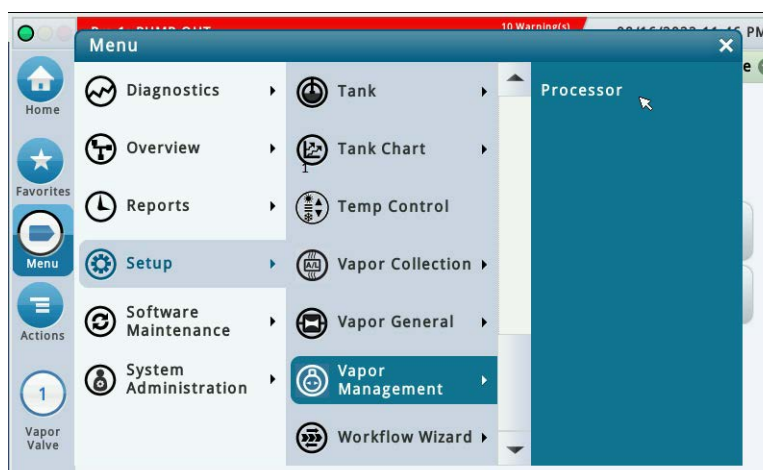

Figure 38. Vapor Management Setup Screen
1. Touch Setup>Vapor Management>Processor (see Figure 38).